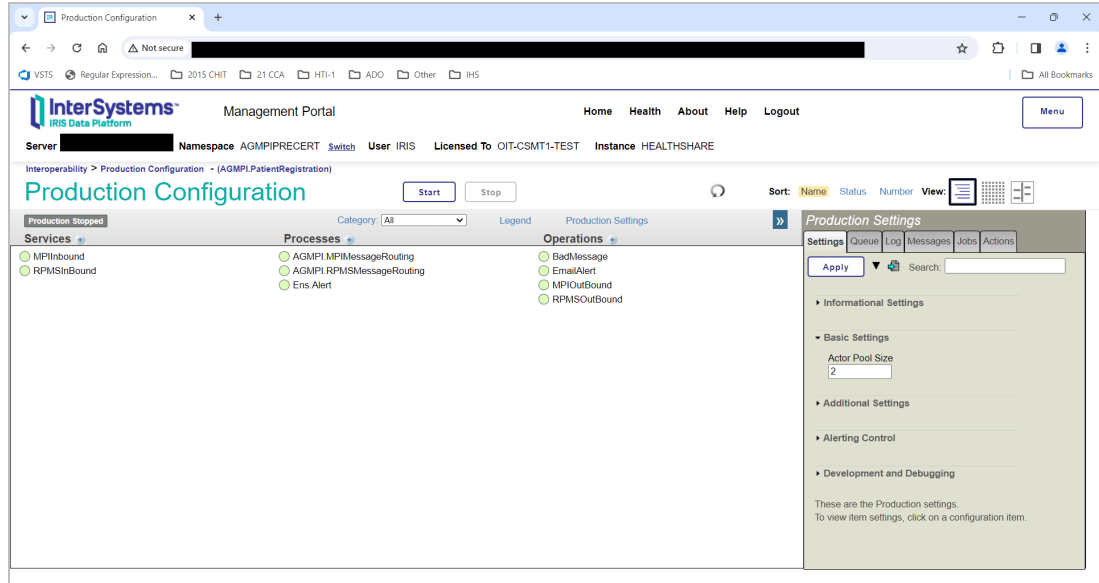

Figure 8-9: Production Configuration page, Start button
2. To start a production, click the **Start** button on the **Production Configuration** page, as shown in Figure 8-9, then click **OK** in the **Start Production** dialog.